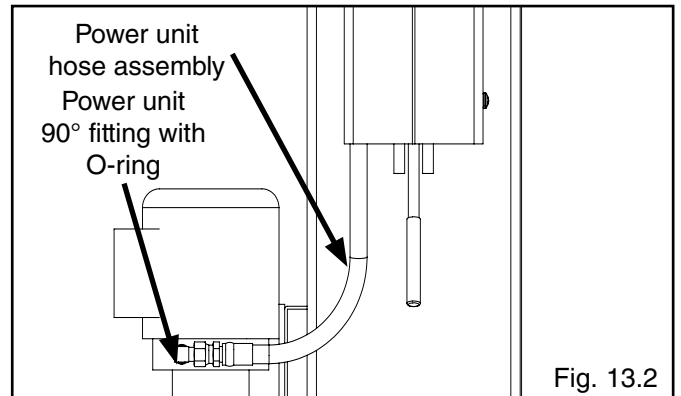

Fig. 13.2
2. Install the 90° fitting w/ O-ring into the power port of the power unit. Use teflon tape on the pipe fittings ONLY. Connect power unit hose assembly to the 90° w/O-ring fitting on power unit. (See Fig. 13.2)